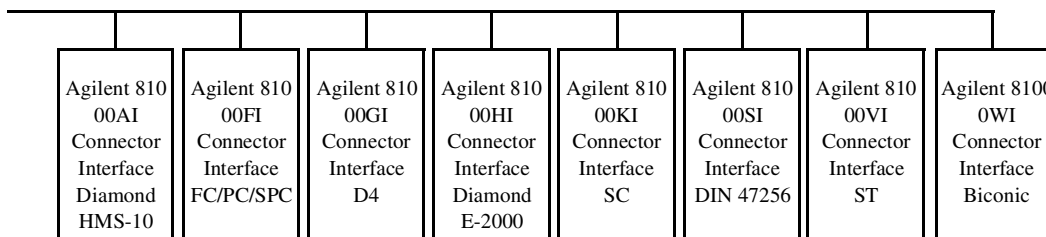

Figure 15 Options 021, 071: Single-mode fiber/PMF with Straight Contact Connectors
- 2 Connect your cable (see Figure 15).